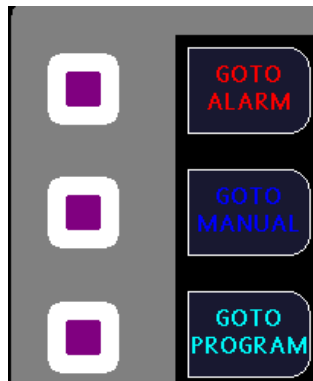

Figure 1.2: Main Screen Navigation
**Navigation** is performed by using the programmable Function Keys (FKeys) located down the left hand side of the OI Terminal (refer to Figure 1.2). For the Main Screen there are three screens accessible using the labeled FKey's, **Alarms**, **Manual**, and **Program**.